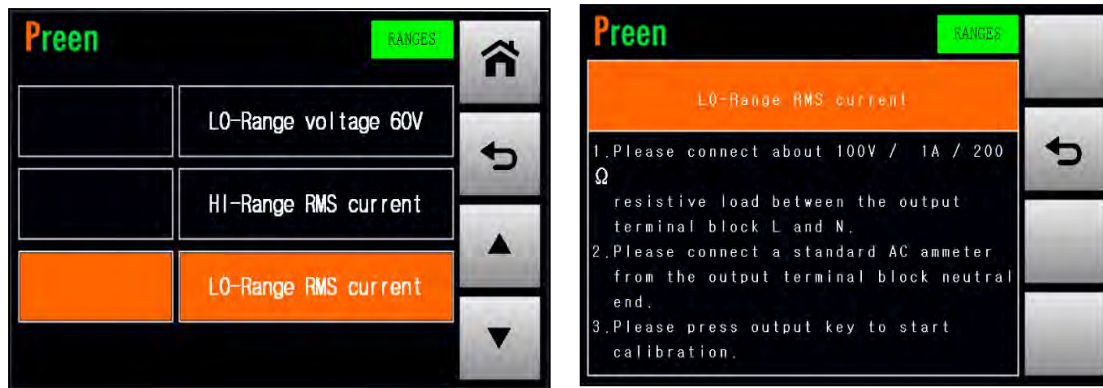

Figure 4.15 Enter into the page which calibrates the LO-Range RMS current
1. Press the item  repeatedly to enter into the page which calibrates the LO-Range RMS current (refer to Figure 4.15).